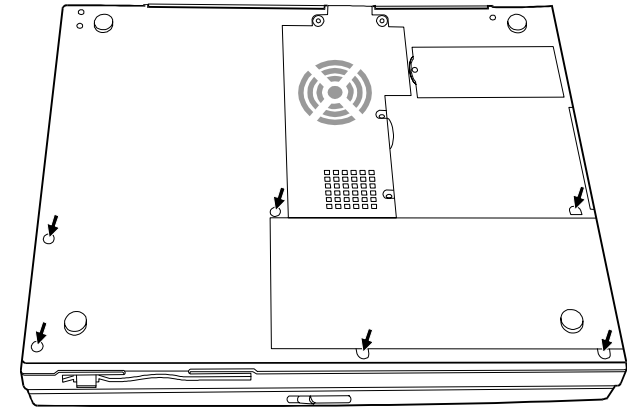

Figure 5-19. Removing Six Bottom Screws
7. Replace the six bottom screws. (Refer to Figure 5-19 earlier.)